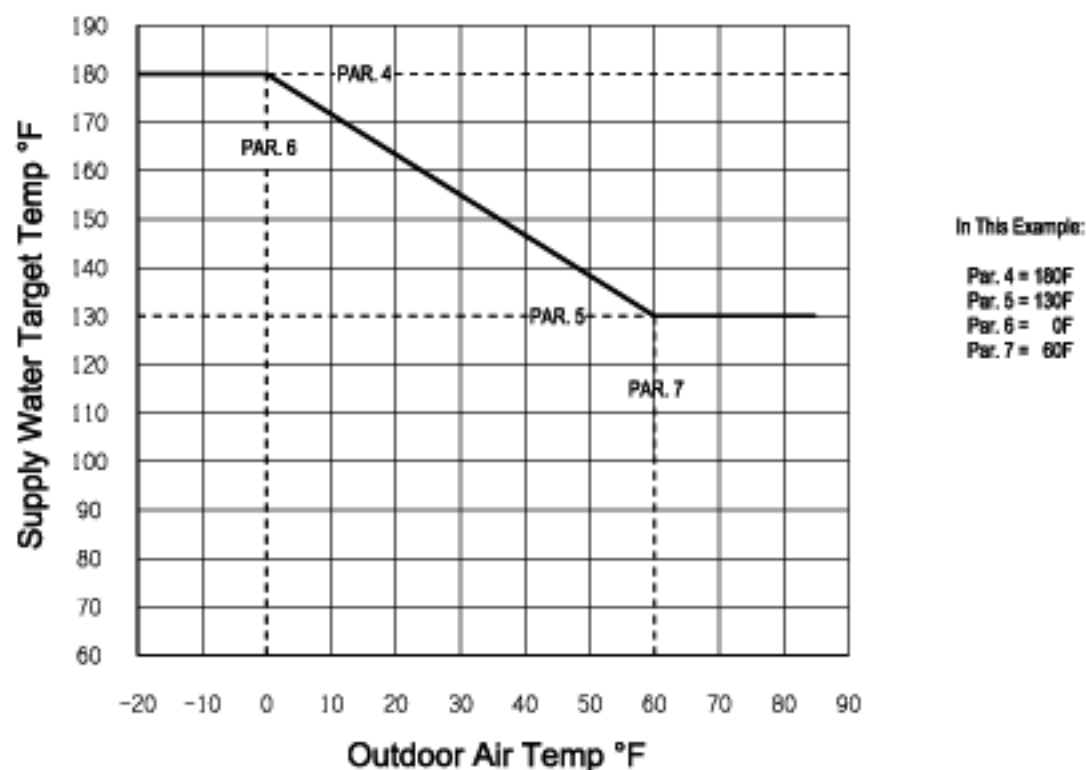

Figure A.2 Adjusting Boiler Water Reset curve
2) Changing the boiler water reset curve - When an outdoor temperature sensor is connected to a BWC Series boiler, the MCBA will adjust the target boiler supply temperature based on outdoor temperature when the boiler is responding to a call for central heat. Figure A.2 is a graph showing the target boiler supply temperature as a function of outdoor temperature. The curve shown in Figure A.2 is that obtained with the factory set parameters. The shape of this curve may be changed by changing Parameters 4, 5, 6, and 7 as shown in Figure A.2.